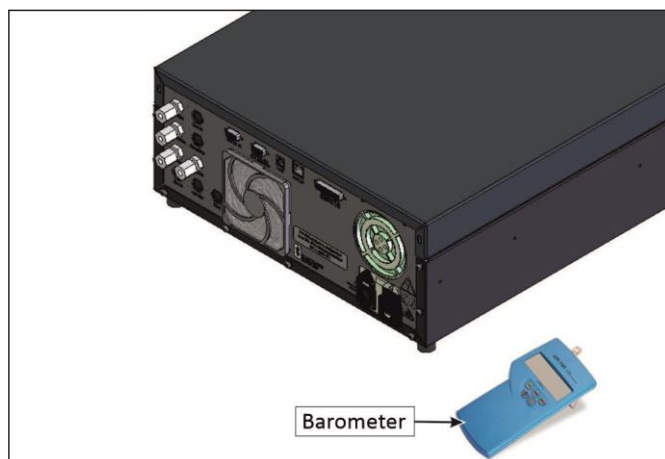

Figure 113 – Full Pressure Calibration Set-up (Ambient)
11. Refer to Figure 113. Disconnect the vacuum source and barometer from **Exhaust Port** and **Sample Port**.